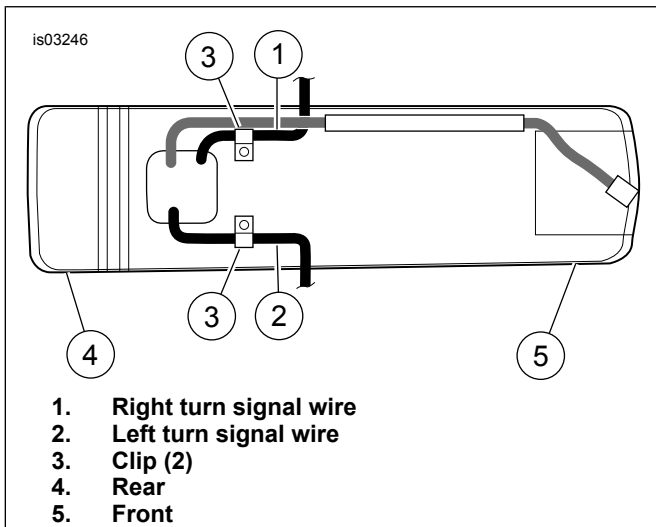

Figure 4. Turn Signal Wires and Clips (Viewed from Bottom Inside Rear Fender)
6. See Figure 4. Remove turn signal wiring (1, 2) from clips (3) under rear of fender.
3. See Figure 4. Secure turn signal wiring inside rear fender using clip.